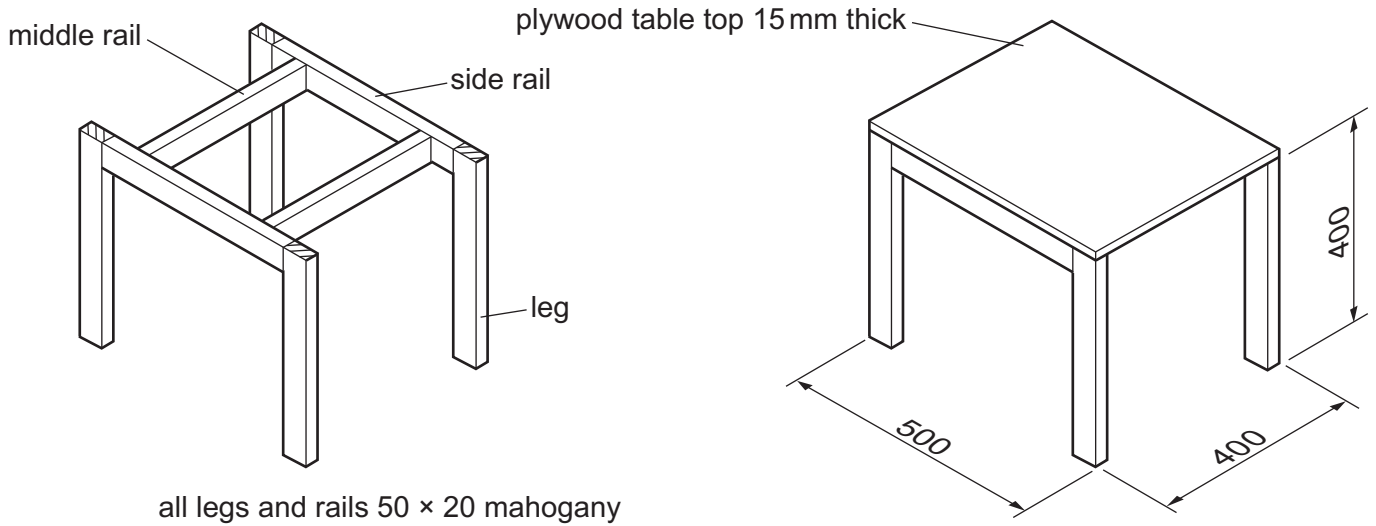

Fig. 11.1
- 11** Fig. 11.1 shows views of a table that will be assembled by customers. The parts of the table are joined by means of knock-down (KD) fittings.